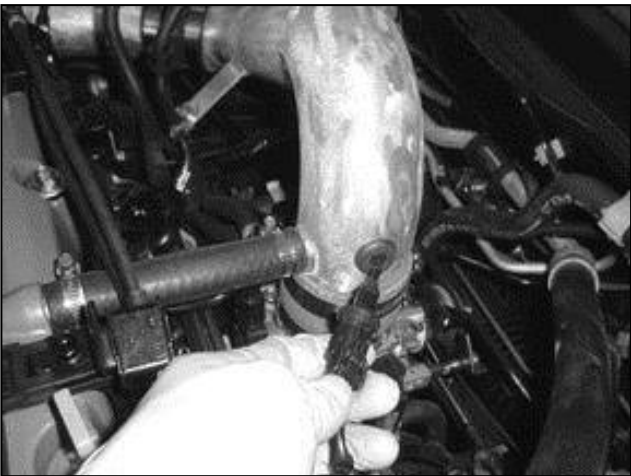

Fig. 11
- h. Install the supplied grommet into the IAT sensor hole in the AEM® primary intake pipe. Install the IAT sensor into the grommet and plug in the IAT sensor connector. **(Fig. 11)**